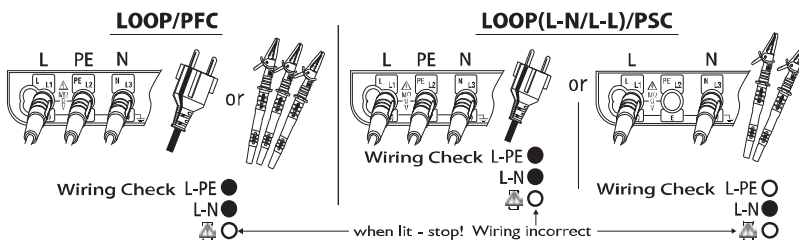

Fig.29
- (1) Operate the Power button and turn on the instrument. Turn the Function switch and set it to either the LOOP or PSC/PFC position.
- (2) Insert the Test Lead into the instrument. (Fig.29)
After the connection, ensure that the symbols for Wiring check on the LCD are in the status indicated in Fig.29 before pressing the test button.
If the status of the symbols for Wiring check differ from Fig.29 or  symbol is indicated on the LCD, DO NOT PROCEED AS THERE IS INCORRECT WIRING. The cause of the fault must be investigated and rectified.